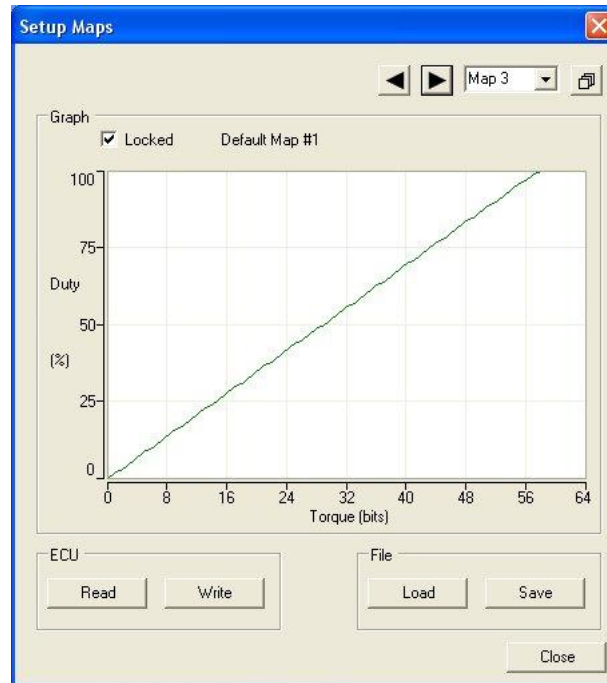

Figure 8 - Setup Maps Dialog (One Map)
4. Use the arrow buttons or the drop-down box in the top right-hand corner of the dialog to select the map to be edited (Figure 8).